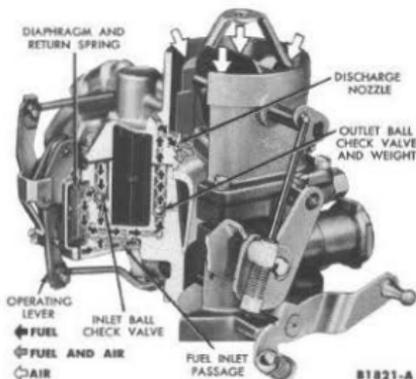

FIG. 31—Accelerating Pump System
**ACCELERATING PUMP SYSTEM.** Smooth acceleration requires a momentary increase in the supply of fuel. The air flow through the carburetor responds almost immediately to any increase in carburetor throttle valve opening. The fuel within the metering passages will lag momentarily in its response to the pressure difference created by this increased air flow. This lag in fuel response will cause a temporary leanness in the fuel-air mixture that results in a hesitation in engine acceleration. A mechanically operated accelerating pump system (Fig. 31) supplies added fuel to provide a richer fuel-air mixture for this brief period of time.